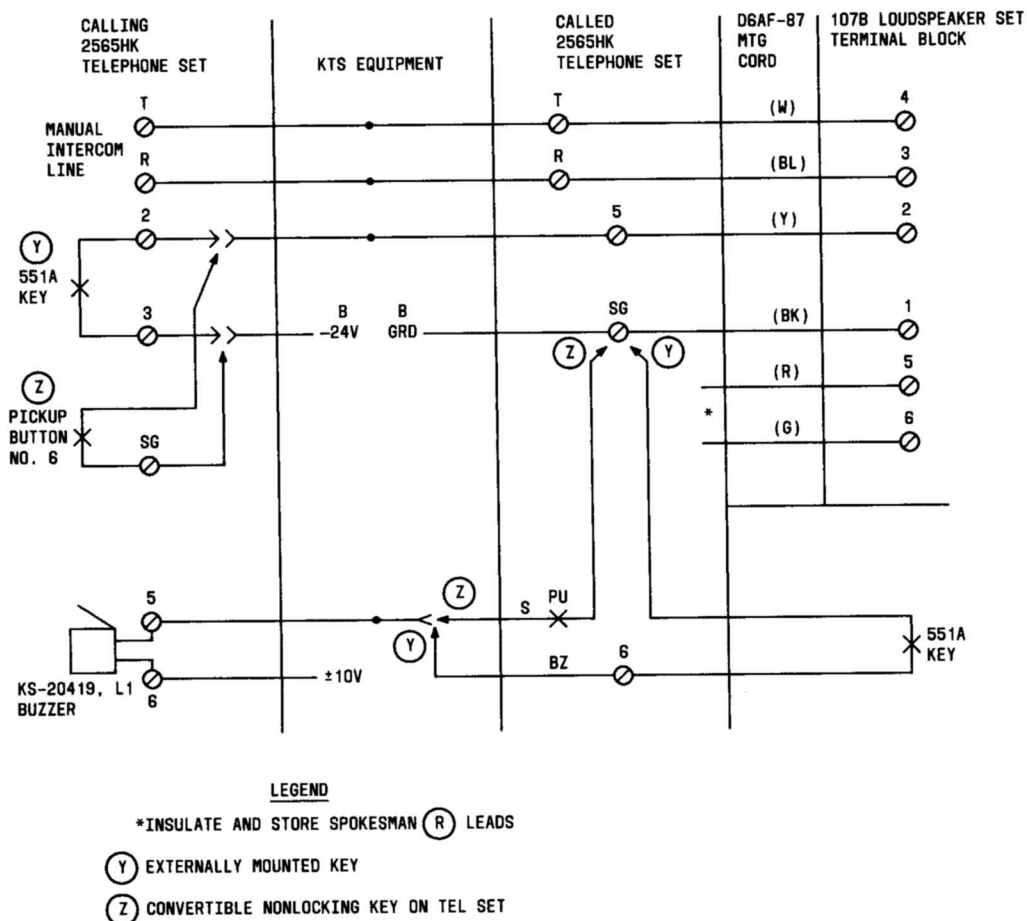
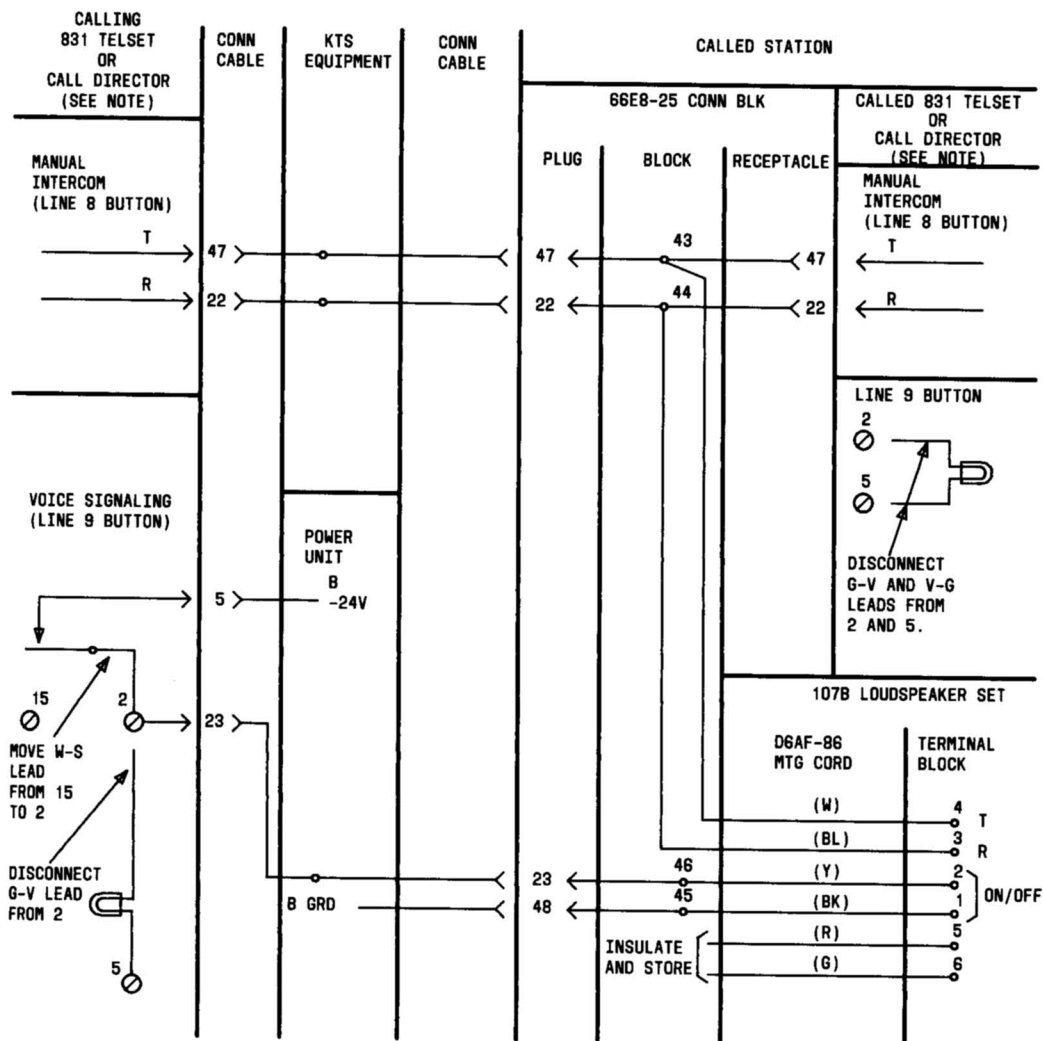

Fig. 1—Example of Connections for Voice- and Conventional-Signaling Arrangements With Manual Intercom Using 2565HK Telephone Sets
Fig. 2—Example of Connections for Voice-Signaling Arrangement With Manual Intercom Using 831-Type Telephone Sets
- Revise Fig. 1
- Add new Fig. 2
3.07 The 6-Button Telephone Sets—Bring the loudspeaker mounting cord directly into the telephone set and insulate and store R and G leads. The power supply may be brought into the telephone set over spare cord conductors and connected to the loudspeaker set cord using spare terminals as shown in Table A and Fig. 1.
3.08 The 10- and 20-Button Telephone Sets—These sets do not have suitable spare leads or terminals for voice-signaling connections and require the use of a 66E8-25 connecting block at the called station for access to the required leads (Fig. 2).
One of the line buttons of the calling station may be used for initiating the voice-signaling function as shown in Fig. 2. Power connections to the loudspeaker at the called station are via terminals on the 66-type block.
3.09 Call Director Telephone Sets—Screw terminals are not available in CALL DIRECTOR telephone sets; therefore, a 66E8-25 connecting block should be used at the called station for access to the required leads (Fig. 2).
4.01 An example of connections for voice signaling with manual intercom using typical 6-button telephone sets is shown in Fig. 1. Connections for typical 20-button sets using a 66-block at the called station are shown in Fig. 2. While there may be many ways to set up an arrangement for voice signaling with manual intercom, the following requirements must always be met:
A. 6-Button Telephone Sets (Fig. 1)
- Connect (W) lead to tip of manual intercom line.
- Connect (BL) lead to ring of manual intercom line.
- Connect (Y) lead to BZ1 lead of telephone set using spare terminal as shown in Table
- Connect (BK) lead to SG terminal of telephone set.
Note: Connections for a buzzer circuit in addition to intercom signaling are shown in Fig. 1. If buzzer is not required, these connections can be omitted.
B. 10-, 20-Button, and CALL DIRECTOR Telephone Sets (Fig. 2)